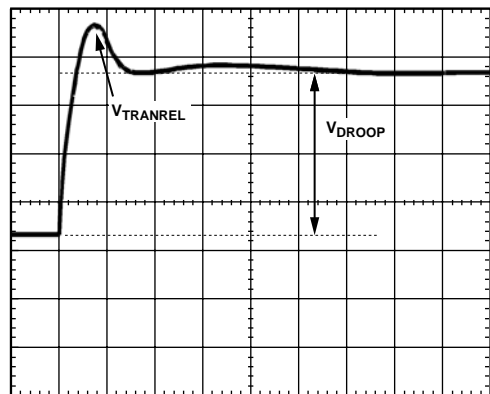

Figure 19. Transient Setting Waveform
- For load release (see Figure 19), if  $V_{TRANREL}$  is larger than the allowed overshoot, there is not enough output capacitance. Either more capacitance is needed, or the inductor values need to be made smaller. (When changing inductors, start the design again using a spreadsheet and this tuning procedure.)